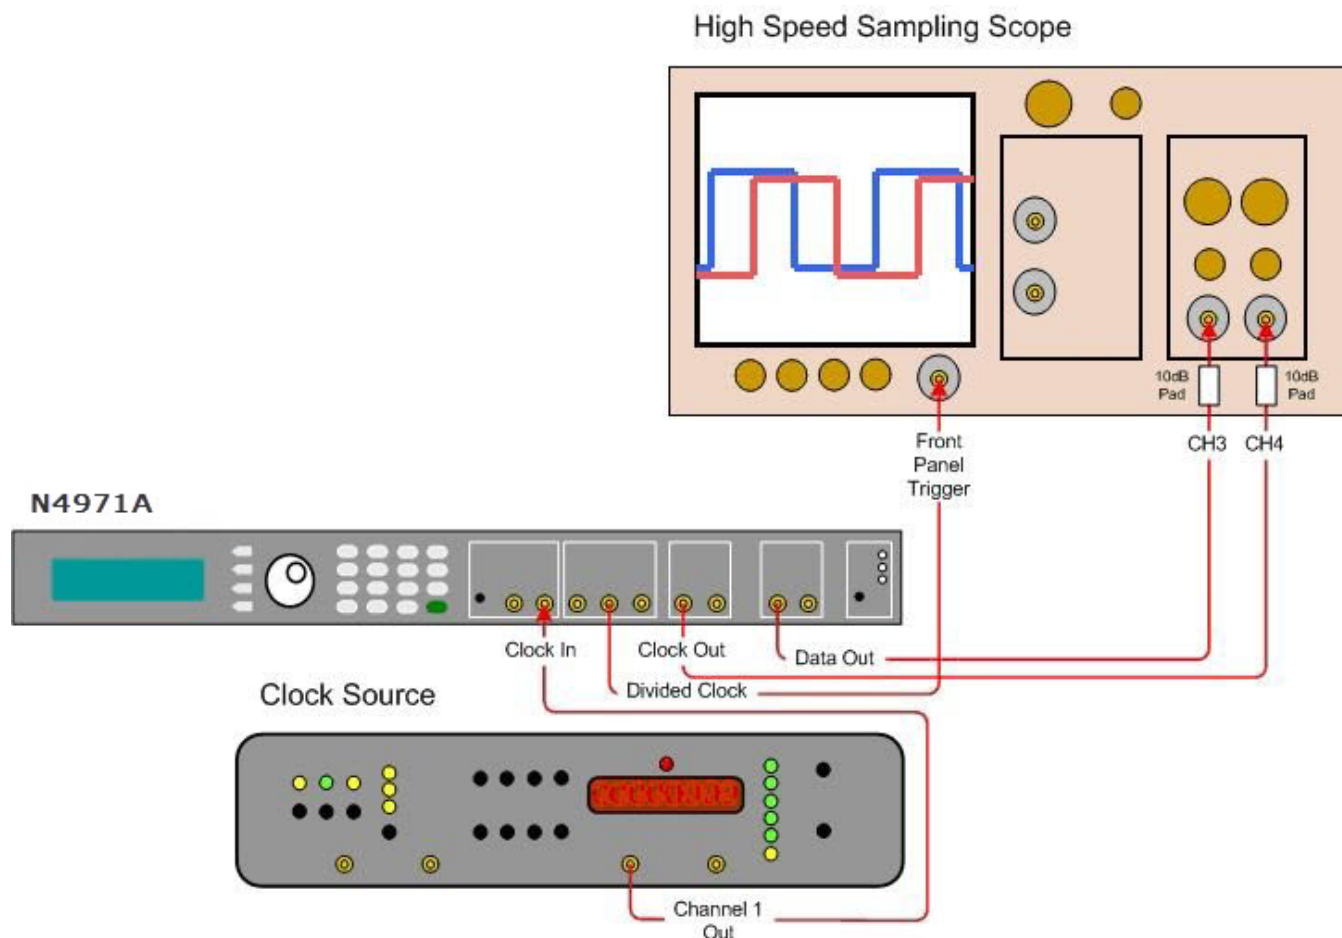

Figure 1. Factory default setup
4. Connect the N4971A to a clock source and high speed sampling scope as shown in Figure 1.